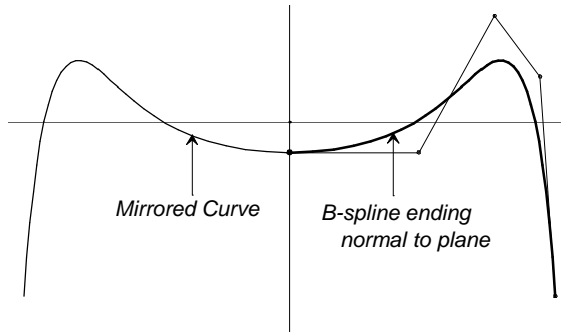

Fig. 4
- A B-spline Curve that ends normal to a plane and its Mirrored Curve across that plane (Fig. 4). See also Tangency and Mirrored Curves in the Building Tangency with B-splines tutorial.